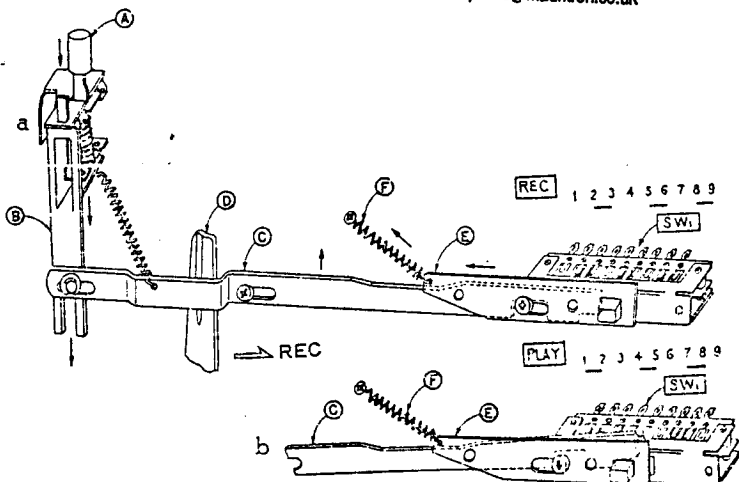

Fig. 10
By pushing **SOUND-ON-SOUND BUTTON** (A) while the recorder is set to recording condition, **LEVER** (D) is depressed and **LEVER** (C) is lifted through **LEVER** (B). Refer to Fig. 10-a.
As a result, **LEVER** (C) is released from stopper of SW-1 and SW-1 is reset to play condition as **LEVER** (E) is pulled by **SPRING** (F). Refer to Fig. 10-b.